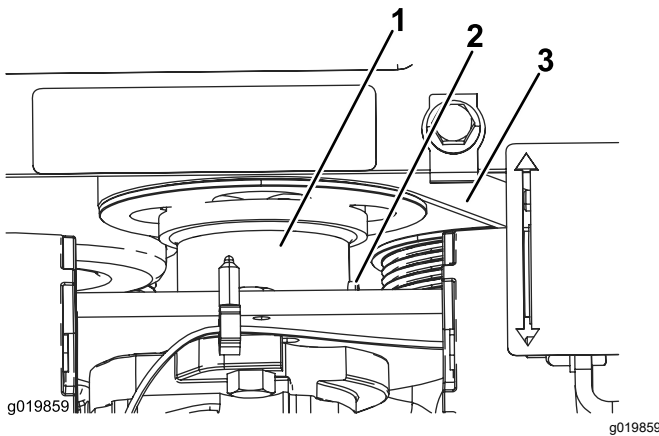

Figure 52
5. Loosen the set screw on the gear pump drive coupler (Figure 52).